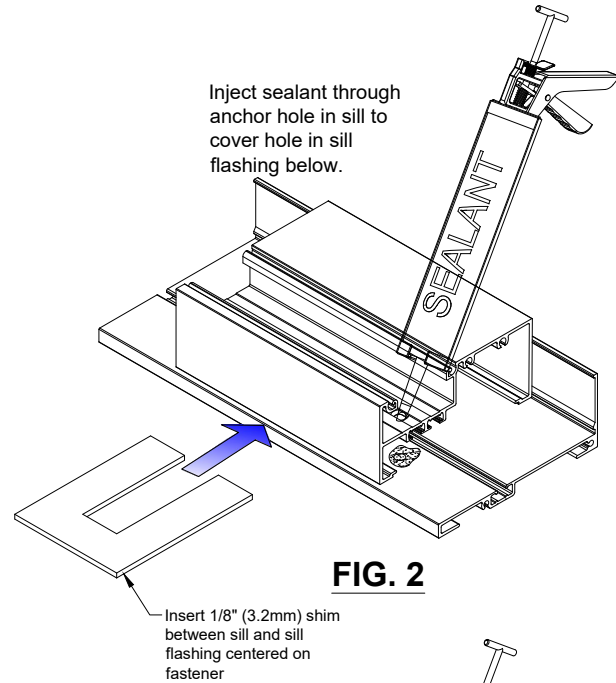

FIG. 2
- J. Inject sealant into anchor hole to cover hole in flashing. See **FIG. 2**.